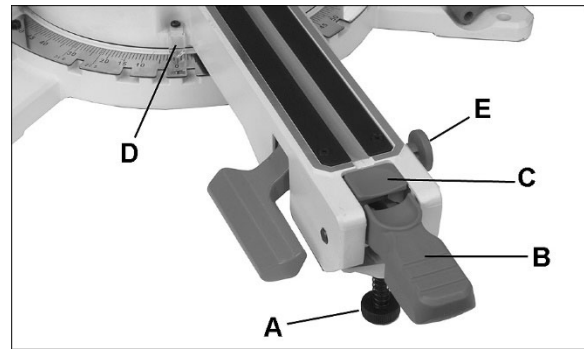

Figure 8-1: selecting miter angles
Loosen slide locking knob (A, Figure 8-1).
The foot (A, Figure 8-1) can be turned in or out to adjust its height. It is designed to provide support for the miter table when locking handle is pushed down or when cutting head is brought forward for slide-cutting. The foot should be adjusted to contact surface of bench or worktable.
1. Lift up on miter lock handle (B, Figure 8-1) to unlock table.
2. Press and hold release button (C) and use miter lock handle to push cutting arm until desired degree aligns with angle indicator (D).
3. Push down miter lock handle (B) to lock the position.
2. Press release button (C) and move table with handle (B). As scale indicator approaches the desired degree, release the button (C). The table will engage the next positive stop.
2. If indicator (D, Figure 8-1) does not align with zero on scale, loosen screw and adjust indicator to 0° mark. Retighten screw.
For chop cutting operations on small workpieces, slide cutting head completely toward rear of unit and tighten slide lock knob (A, Figure 8-1). Follow general cutting procedures of *sect. 9.3*.
To cut wide boards, loosen slide lock knob (A, Figure 8-1) to allow cutting head to slide freely. See specifications for maximum slide capacity of your saw.